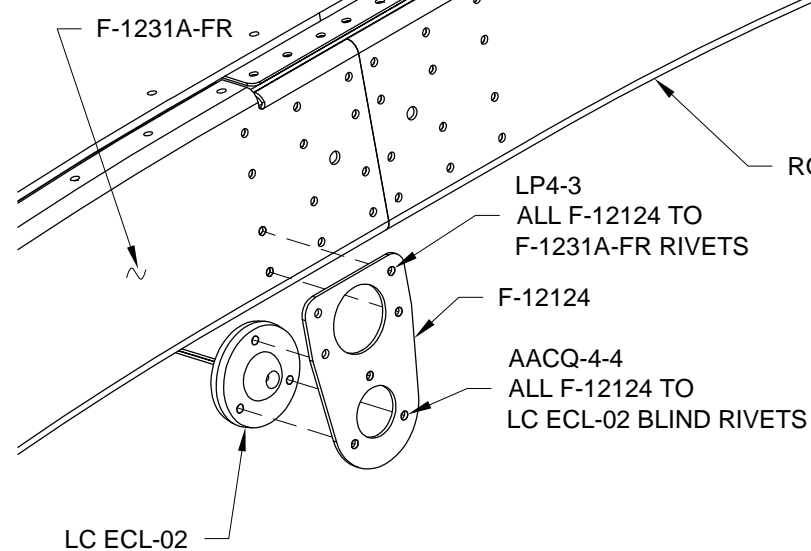

FIGURE 1: ADDING THE LIGHTING BRACKET
Rivet the light bracket to the web of the F-1231A-FR Roll Bar Frame as shown in Figure 1.
Step 11: Rivet the LC ECL-02 Red Eyeball Cockpit Light to the F-12124 Light Bracket per the hardware in Figure 1.